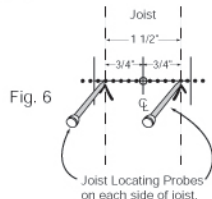

Fig. 6
2.3-Once you have found the outside edges of the stud or joist, mark the hole locations at each side with a pencil and measure the distance between them. It should be approximately 1 1/2" between the two edge-locating holes. Split the difference—Measure 3/4" in from each end and mark the location. This location should be your center. Make a straight line with a pencil. Position the mounting plate over the pencil line. (See Fig. 6)